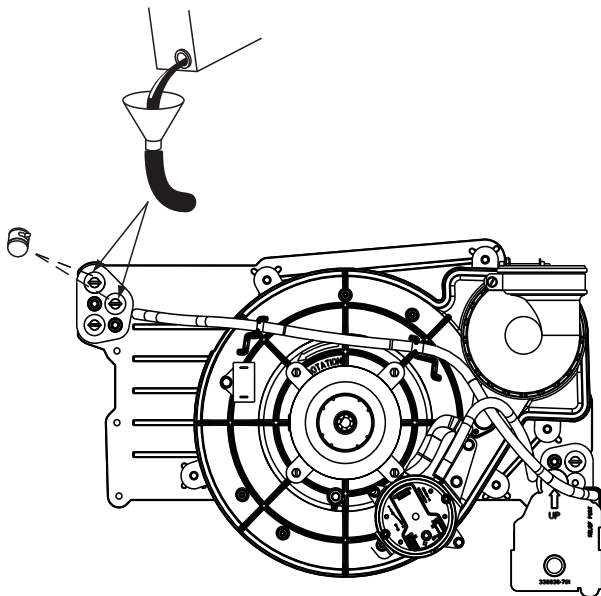

Fig. 62 – Priming Condensate Trap
1. Remove upper and middle collector box drain plugs opposite of the condensate trap (Fig. 62).